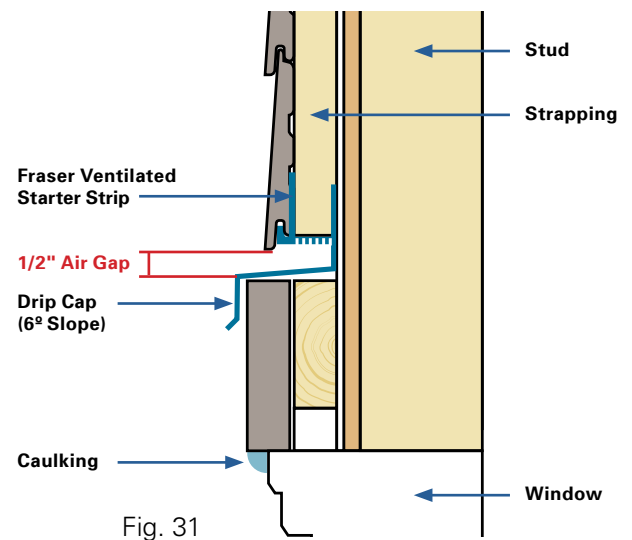

Fig. 31
- Install Fraser Ventilated Starter Strip to allow air flow, drainage and prevent insects from nesting behind the siding. *(See Figure 31)*